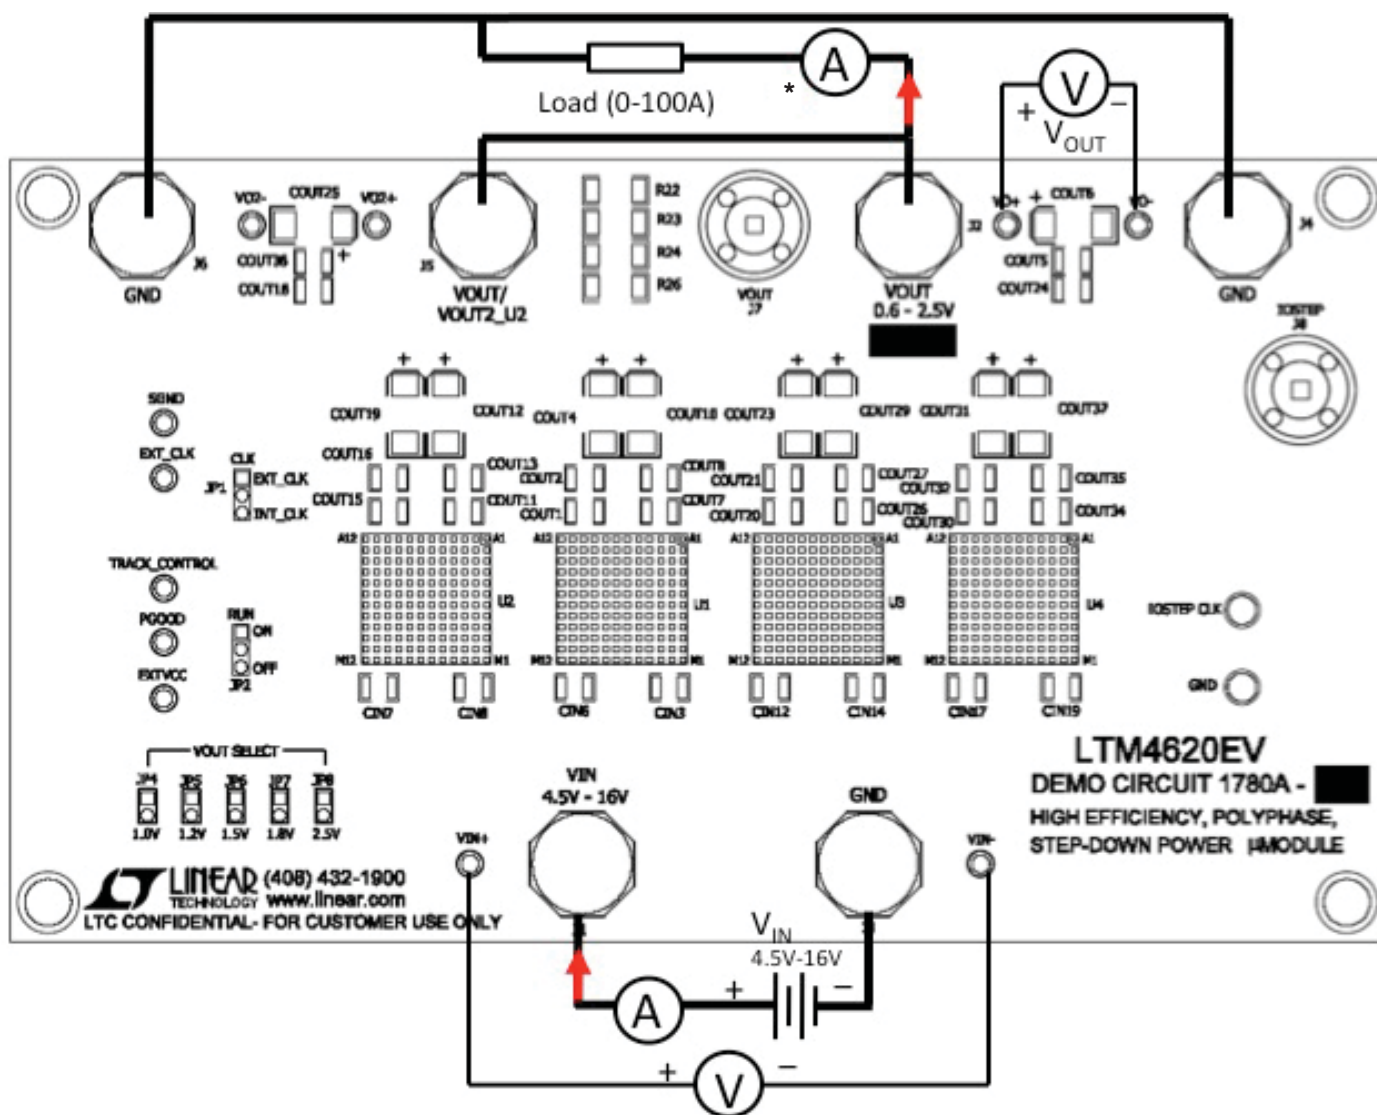

Figure 2. Test Setup of DC1780A-C
Demonstration circuit DC1780A-C is easy to set up to evaluate the performance of PolyPhase operation of the LTM4620EV. Due to the high input/output current, select a proper input supply/load/cable which can sustain the full load operation. Please refer to Figure 2 for proper measurement setup and follow the procedure below:
- With power off, connect the input power supply, load and meters as shown in Figure 2. Preset the load to 0A and  $V_{IN}$  supply to 12V.